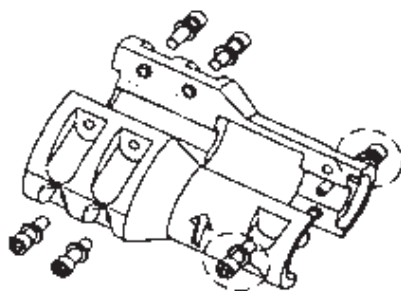

Figure 22: Coupling Socket Head Screws
4. Remove the (4) hex head bolts the join the motor and motor adapter. Retain bolts for reassembly.
7. Secure the motor with the (4) hex head bolts. See the “Engineering Data” section on page 8 of this manual for the proper torque value.
11. Very lightly tighten the (2) socket head cap screws on the pump end of the coupling (refer to Figure 22). Tighten the coupling evenly; ensure that the coupling is symmetrical on both the pump and motor shafts. Do NOT torque the cap screws in this step.